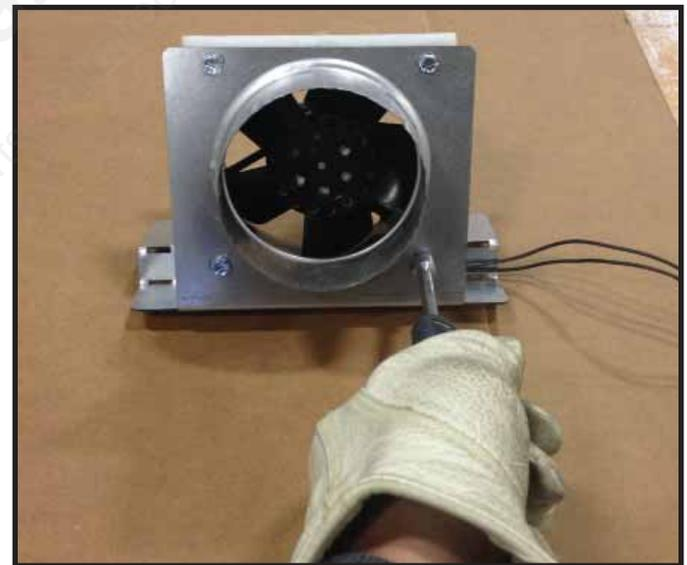
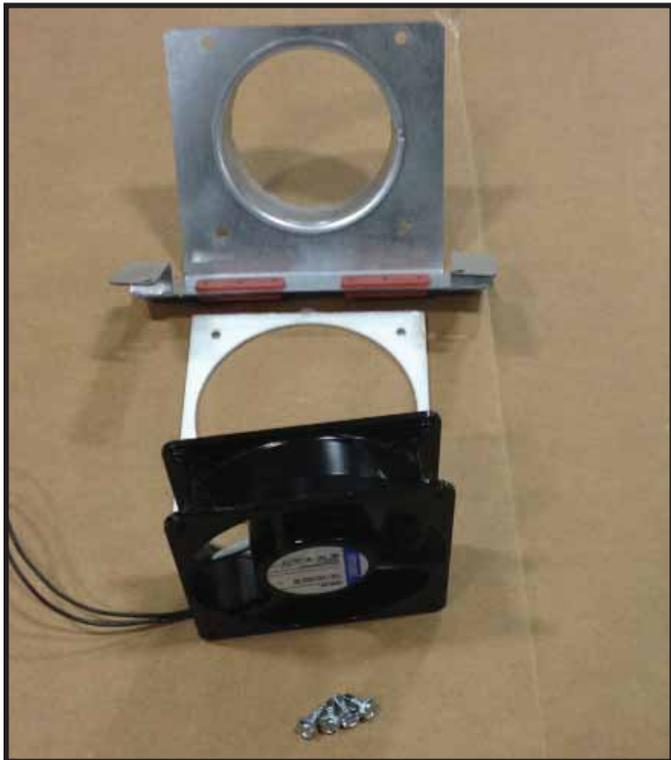

Figure 8.18 Removal of Mounting Bracket from Blower
Figure 8.19 Blower, Gasket Mounting Bracket, and Hardware
8. Remove mounting bracket from blower by removing the four screws that hold the blower to the bracket. They are located on one side of the bracket. Save the gasket for use with the new blower. See Figure 8.18 and Figure 8.19.